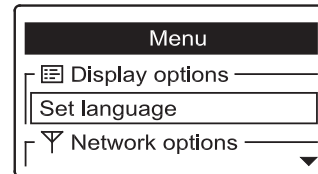

FIG. 100
1. If no device has been added to the remote, the menu shown in Figure 100 is displayed instead of status screens. In this case, skip to step 2. Otherwise, if status screens are shown, press the remote's SELECT (O) button to display a **Menu** screen (See Figure 100).